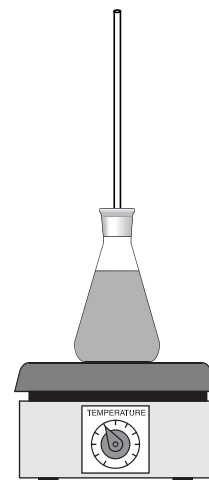

Figure 1.
6. Place the stopper on the Erlenmeyer flask (see Figure 1).